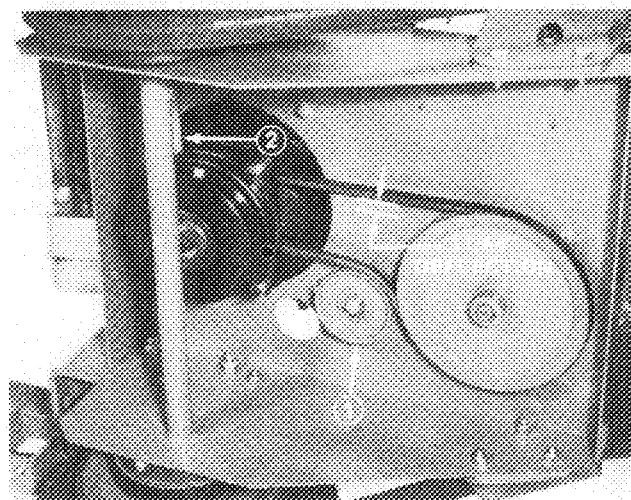

Figure 1
10. Loosen capscrew and flange nut securing idler pulley to frame (Fig. 1). Slide pulley outward relieving tension on traction belt.
11. Remove left front engine mounting bolt securing clutch retainer to frame (Fig. 1). Unhook retainer from clutch and remove retainer.
12. Make sure in-line clutch connector is disconnected and remove traction belt from clutch. (Fig. 1). Remove grommet in frame hole allowing clutch connector to pass thru when removing clutch.
21. Position and secure idler pulley to frame so belt deflection is not more than  $1\frac{1}{64}$ " when  $5\frac{1}{2}$  lbs. of force is applied to midspan of long leg of belt (Fig. 1).
23. Align control panel with (2) existing holes in left side of upper handle. Using control panel as a template, mark and drill (2)  $\frac{7}{32}$ " dia. holes thru right side of upper handle (if applicable).